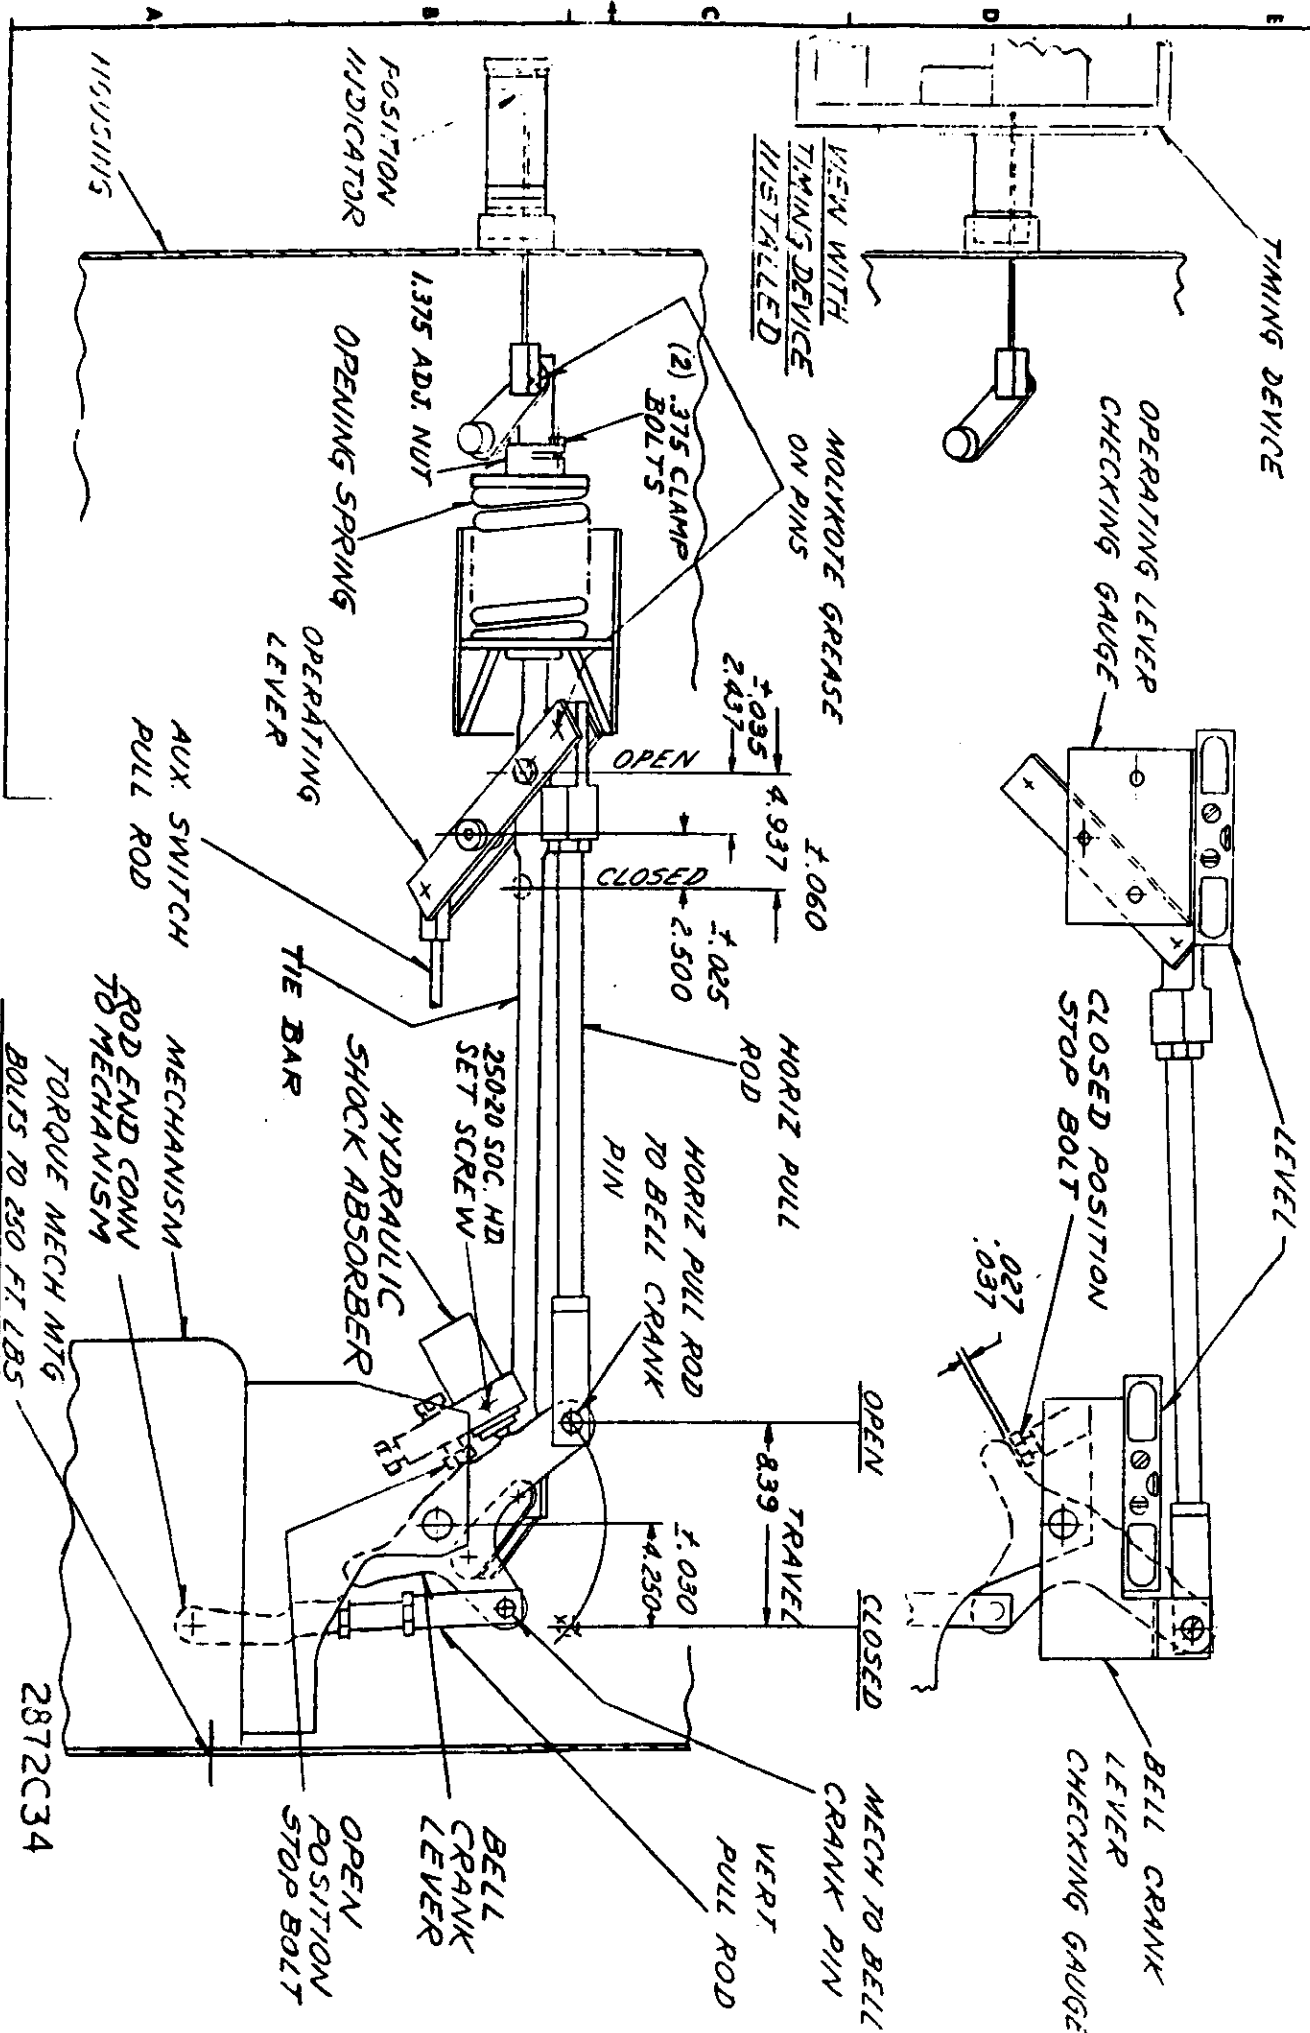

FIGURE 4
- b. Molykote (53701DK) is applied to all the pins in the horizontal linkage (Fig. 4), sliding surfaces and sleeve bearings on the mechanism.